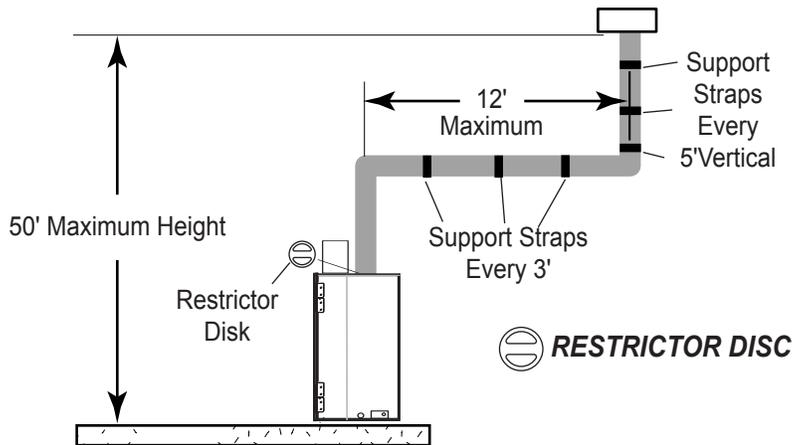

Figure 25- Support Straps for Horizontal Runs
- Vertical installations up to 50' (15.2 m) in height. Up to a 12' (3.6 m) horizontal vent run can be installed within the vent system using a maximum of two 90° elbows. See Figure 25.
NOTE: If an offset is needed to avoid obstructions, you must support the vent pipe every three (3) feet. Use wall straps for this purpose. See Figure 25, page 22. Whenever possible, use 45° elbows instead of 90° elbows. The 45° elbow offers less restriction to the flow of the flue gases and intake air.